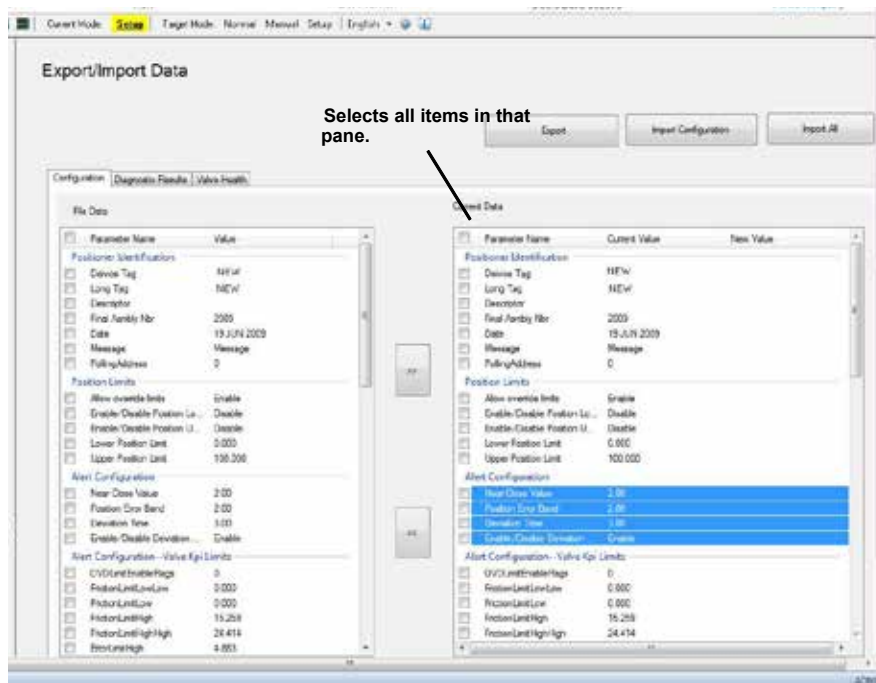

Figure 96 Import Configuration: Select Desired Data
2. Navigate to the required directory, select the file and click **Open** and Figure 96 appears. This was saved to the default directory - the target directory can be changed, but ensure you record any change.
2. Navigate to the required directory, select the file and click **Open** and Figure 96 appears. The target directory can be changed, but ensure you record any change.